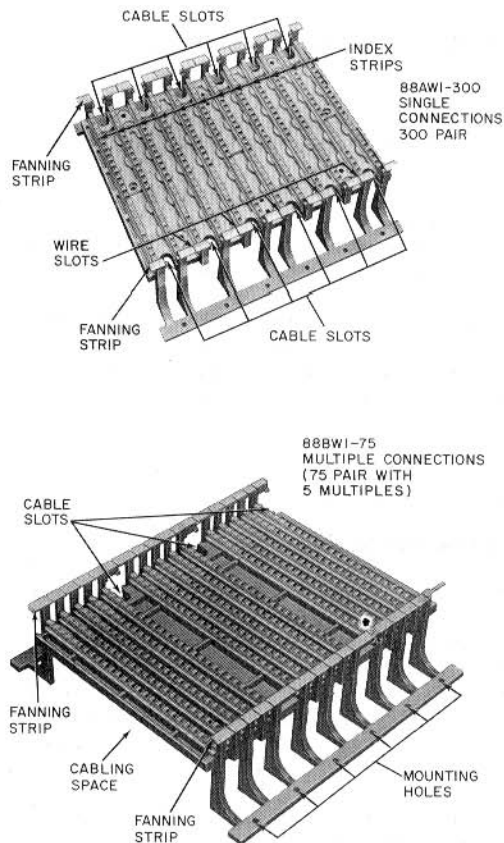

Fig. 1—88-Type Wiring Block
**2.01** The 88-type wiring block (Fig. 1) is made of flame retardant plastic with molded index strips. Separate backboards are not required. Each index strip has 50 slots to accommodate a 25-pair cable or a color binder group for terminating PE or PVC 22-, 24-, 26-gauge wire without removing insulation. The index strips are color-coded white, red, black, yellow, violet, from left to right, in 5-pair segments to match the color coding for tip conductors of even-count cables. The various parts of the wiring block are shown in Fig. 1.